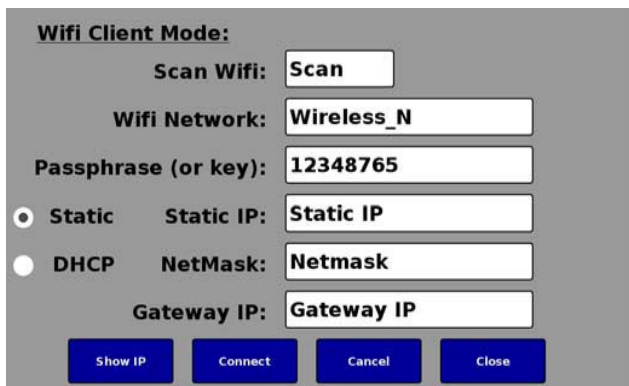
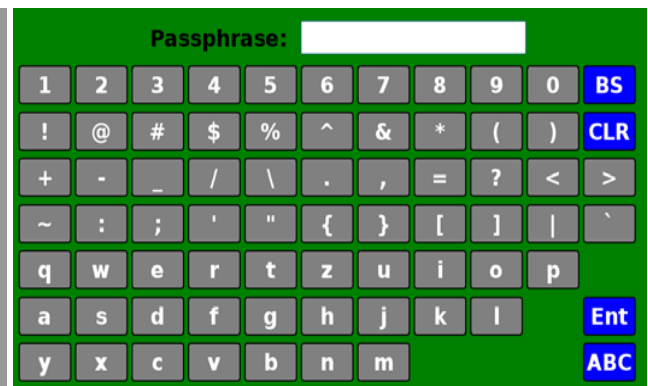

FIGURE 48
FIGURE 49
- 1) Press the Static IP box (Figure 48), a keypad box will open, press the CLR clear button and enter your IP address and hit ENT (enter) (Figure 49).
- 2) Press the Netmask box (Figure 48) a keypad box will open, press the CLR clear button and enter your Netmask address and hit ENT (enter) (Figure 49).
- 3) Press the Gateway IP box (Figure 48) a keypad box will open, press the CLR clear button and enter your Gateway IP address and hit ENT (enter) (Figure 49). Note: If configuring a STATIC IP for WiFi or Ethernet and there is NO Gateway, then enter 0.0.0.0 for Gateway address.